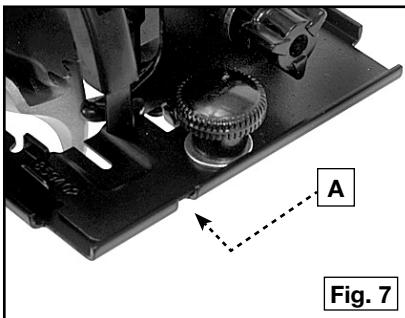

Fig. 7
The left edge of the notch (A) Fig. 7 is marked "45". Use this edge to follow the line when making 45° bevel cuts. The right edge of the notch is marked "0". Use this edge to follow the line when making 90° cuts.